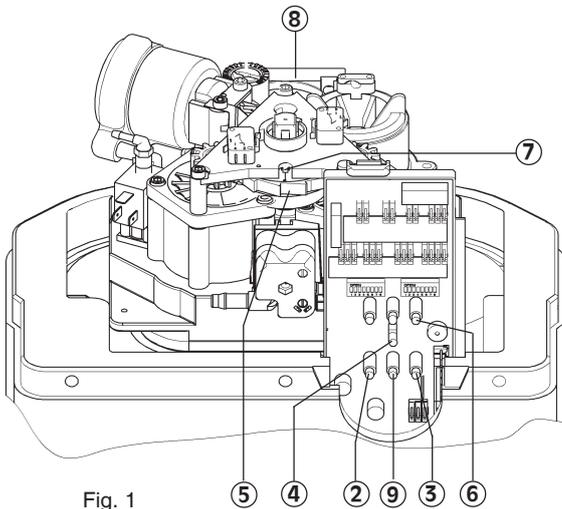

Fig. 1
- b) Should a regeneration take place at this very moment (LED (2) or (3) is on, fig. 1), wait until it is completed. Afterwards, initiate a regeneration process by pressing the regeneration key (4).
- c) The operating piston turns the driver (5) (fig. 1), which drives the small gear wheel. Each lift of the operating piston causes the LED (6) to go on. The position of the driver can be read on the position indicator (7). The "sodium" position (pos. 2) is reached after two lifts. After a maximum of 15 minutes, the operating piston initiates another lift. The waste water quantity used so far amounts to approximately 4.5 litres.
- d) After this lift, the "backwash" position is reached (pos. 3). The resin is flushed upwards. Duration 100 seconds, waste water roughly 3 - 4.5 litres.
- e) Two further lifts are carried out afterwards until the position "Primary filtrate" (pos. 5) is reached. At this stage, the resin is flushed downwards (duration 100 seconds, waste water 2.5 - 4 litres).
- f) After two further lifts, the regeneration of the first tank is completed. Total duration: max. 18 min. The driver now turns with two lifts the right gear wheel to the position "Influx of brine" (pos. 2) to regenerate the second tank